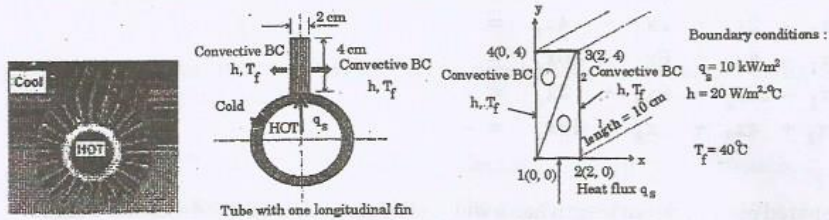

Fig. 7
b) Use finite element method to determine the temperature variation across the thickness of longitudinal fins of a tubular heat exchanger as shown in the figure 7. The heat exchanger is designed to heat up the cold fluid outside the tube by the hot fluid circulating inside the tube. The cross-section of a single fin is illustrated in the right side of the figure. The fin is made of aluminium with the properties : Mass density  $\rho = 2.7 \text{ g/cm}^3$ , specific heat  $c = 0.942 \text{ J/g} \cdot ^\circ\text{C}$  and thermal conductivity  $k = 2.36 \text{ W/cm} \cdot ^\circ\text{C}$ . The discretized FE model of the fin cross-section is also shown in the figure.